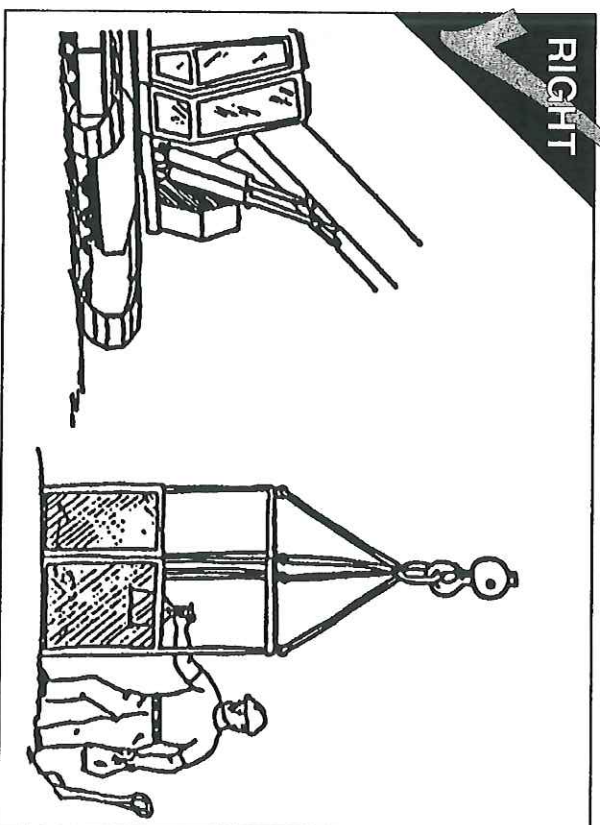

FIG. 45
- A trial lift with the unoccupied personnel platform loaded with ballast at two (2) times the intended load, including personnel, is to be performed at each location at which the personnel platform is to be hoisted and positioned.
- The trial lift shall be repeated prior to hoisting employees whenever the crane is moved and set up in a new location or returned to a previously used location. (FIG. 45)